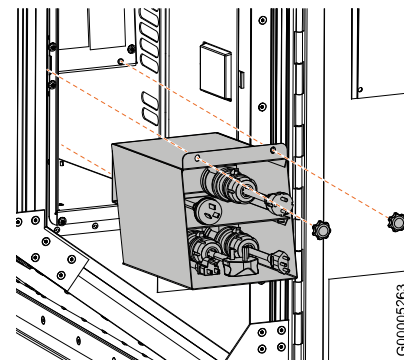

Fig. 27
4. Remove the thumbscrews and pull out the adapter case (**Fig. 27**). Place the thumbscrews in the adapter case.